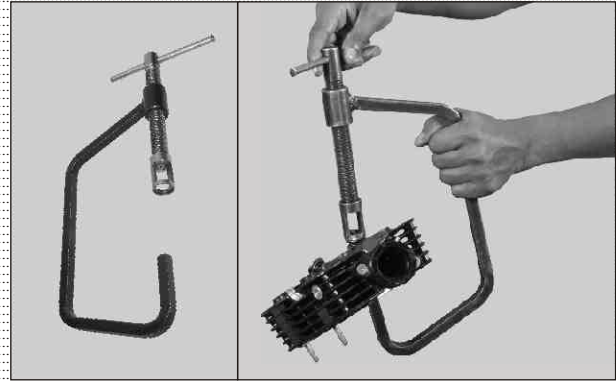

Fig. 1.19
- To remove and install the inlet & exhaust valve cottervalves. (Fig 1.19)